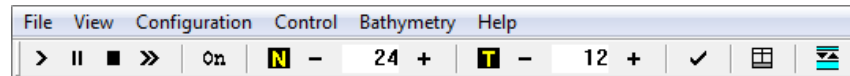

Figure 42: Discover Toolbar Menu
- ii. *Display*: this option applies the TVG set in the display settings as shown in Figure 42. This option requires constant monitoring of the side scan imagery and the TVG must be normalized as the composition of the seafloor changes. This can be done by clicking on the **T** button, or it can be manually adjusted by using the **+** or **-** buttons (see Figure 42).